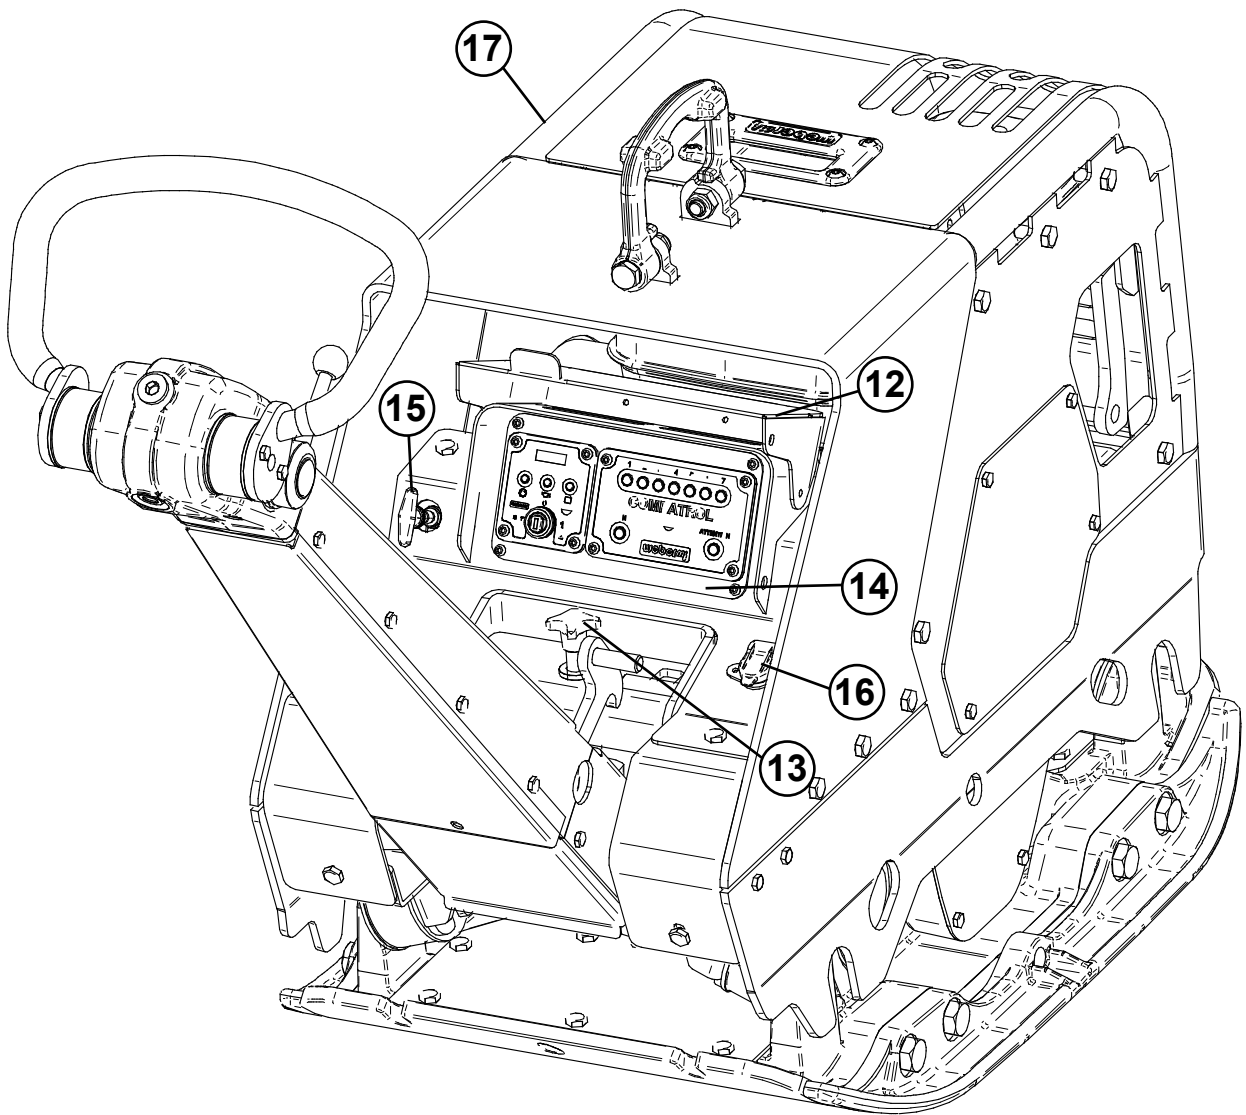

Figure 2
- ▶ Adjust the desired work height of the guide bar with the set screw (position 13, figure 2).
- ▶ Close (pull) the choke lever (position 15, figure 2).